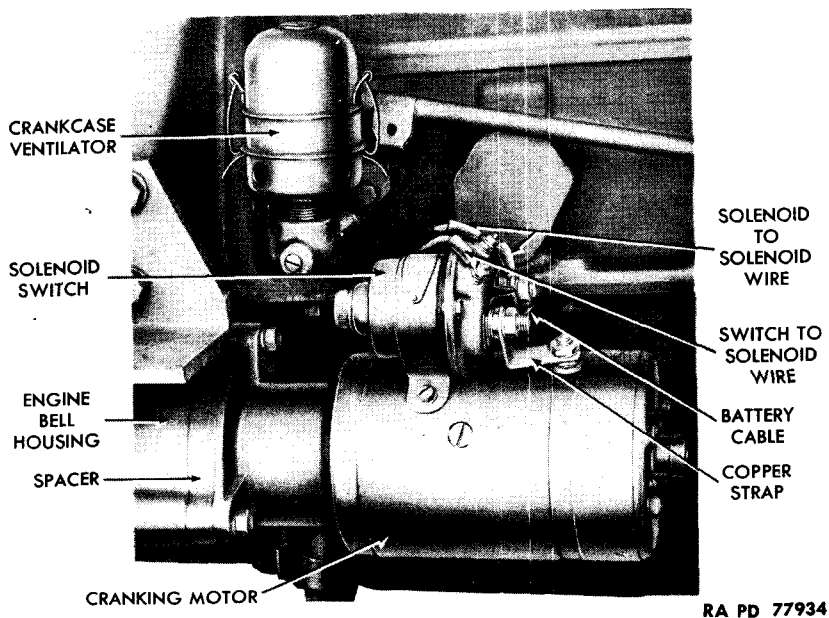

Figure 50 – Cranking Motor and Solenoid Installed
(1) **DESCRIPTION** (fig. 50). The conventional 12-volt cranking motor is located on the right side of the engine between engine and frame side rail, and is accessible through the right-hand splash shield opening and from under the truck. A cranking motor drive, attached to the end of armature shaft and enclosed in a cast iron housing, engages the flywheel ring gear to crank the engine. Drive housing and cranking motor are secured to each other by the main frame screws.
(2) DISCONNECT SOLENOID SWITCH FROM CRANKING MOTOR (fig. 50) (par. 90 b (3)).
(3) DETACH CRANKING MOTOR FROM ENGINE (fig. 50). Remove the three cap screws and lock washers which attach cranking motor to engine bell housing. Two screws can be reached through splash shield opening and one from under truck. Lift cranking motor and spacer from engine and from under truck.
(1) ATTACH CRANKING MOTOR TO ENGINE (fig. 50). From under truck, place spacer and cranking motor in position on engine bell housing. Install three cap screws and lock washers which secure motor to engine.
(2) CONNECT SOLENOID SWITCH TO CRANKING MOTOR (fig. 50) (par. 90 c (1)).
(3) TEST INSTALLATION. Push cranking switch, and check cranking motor operation.
(1) **DESCRIPTION** (fig. 50). This solenoid switch is located directly on top of cranking motor, and can be reached by removing right-hand floor board. This switch, which provides a direct battery to cranking motor circuit, is similar to the conventional type relay or magnetic switch. When cranking motor switch is depressed, a coil within solenoid switch is energized. This coil produces a magnetic field which closes the solenoid's magnetic contacts. The contacts are heavy-duty high arc resisting, to withstand heavy current load.
(2) **DISCONNECT WIRES FROM SWITCH** (fig. 50). Disconnect small red wire coming from harness, from switch top right terminal. Disconnect large red wire from harness and small red wire coming from switch front left terminal, from switch top left terminal. Remove battery cable and small red wire which goes to switch top left terminal, from switch front left terminal. Disconnect flat copper strap which goes to cranking motor terminal from switch front right terminal.
(3) **DETACH SWITCH FROM CRANKING MOTOR** (fig. 50). Remove the two screws and lock washers which secure switch to cranking motor, and lift switch from motor.
(1) **ATTACH SWITCH TO CRANKING MOTOR** (fig. 50). Position switch on cranking motor, and install the two lock washers and screws.
(2) **CONNECT WIRES** (fig. 50). On switch front right terminal, install flat copper strap from cranking motor terminal, lock washers, and nut. On switch front left terminal, install battery cable, small red wire which goes to switch top left terminal, lock washer, and nut. On switch top left terminal, install large red wire from harness and small red wire from switch front left terminal, lock washer, and nut. On